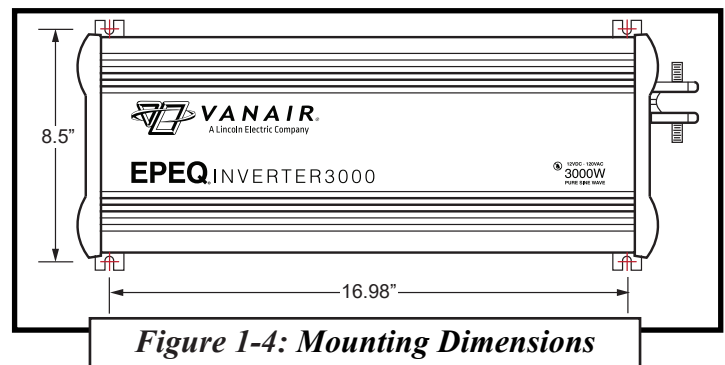

Figure 1-4: Mounting Dimensions
- Use the mounting dimensions below to mark the positions of the mounting screws. (See *“Figure 1-4: Mounting Dimensions”*.)
- Drill four (4) mounting holes, place the inverter in position, fasten the inverter to the mounting surface.